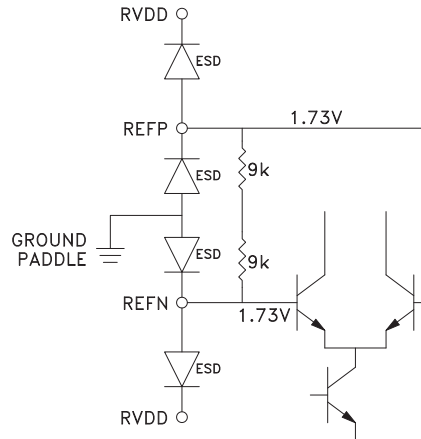

Figure 8. Reference Path Input Stage
The reference input provides the path from the external reference source to the phase detector. The input stage of the reference path is shown in Figure 8. HMC700LP4(E) is a DC coupled, common emitter differential NPN buffer. Input pins have 1.8V bias on them. Expected input is full swing 3V CMOS. Slightly degraded phase noise performance may result with quasi sine or sine inputs. Input reference should have a noise floor better than -155 dBc/Hz to avoid degradation of the input reference path. The input reference path phase noise floor is approximately equivalent to -155 dBc/Hz.